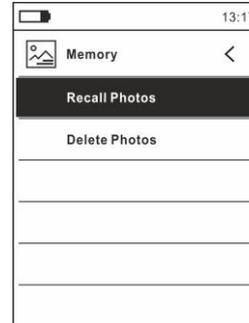

Fig. 17 Menu Memory
31. Use the arrow keys ▲ or ▼ and keys ≡ or ▶ to select option “Delete Photos” (see Fig.17). The following screen appears on the display: